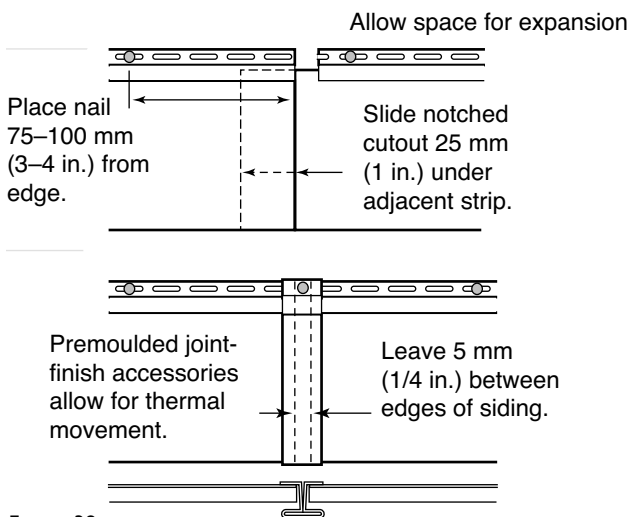

FIGURE 38
- Follow the manufacturer's instructions for installing the siding (see Figure 38).